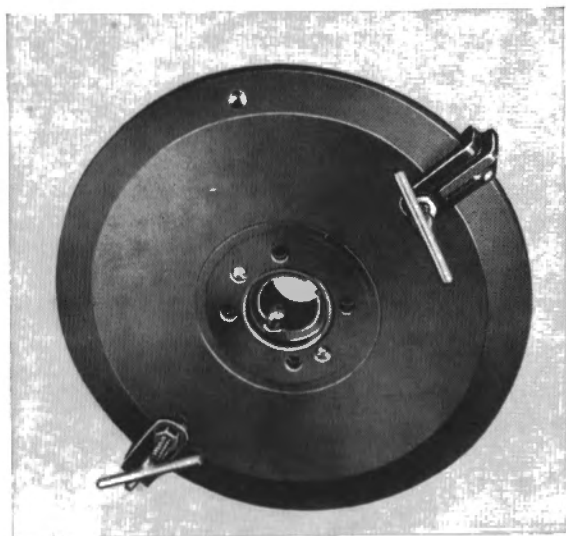

Fig. 03-10/4
2. Clamp the vibration damper together by means of two Clamps Part No. 198 589 01 31 (Fig. 03-10/4). This is necessary in order to ensure that the hexagon screws are relieved when disassembling the vibration damper and that the vibration damper does not come apart.
3. Unscrew the four hexagon screws (8) and remove together with the locking plates and the vee-pulley (4) (Fig. 03-10/3).